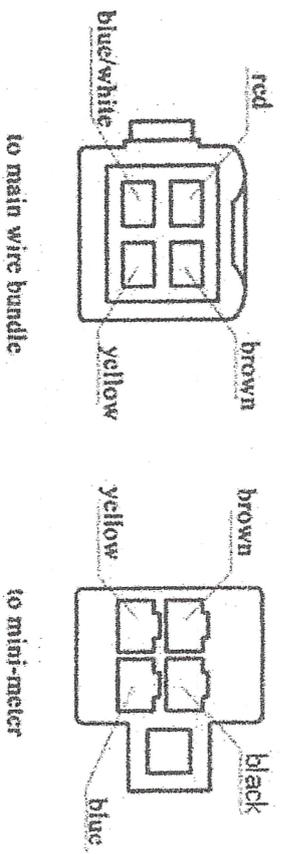

Fig. 12
4.6.5 For those components whose connecting wires may need to go through small holes (such as mini-meter and remote control receiver), you need to pass the wires through the holes before the connection is made to the connector. For such reason, the terminals of these components are not plugged in the sockets in the factory. You have to plug in the terminals according to Fig. 11. You have to keep correct relations for them. Connector for the remote control receiver: Plug connection shall be made according to wire color and serial number of terminals on the sockets. Connector for the mini-meter: Plug connection shall be made according to Fig. 12.